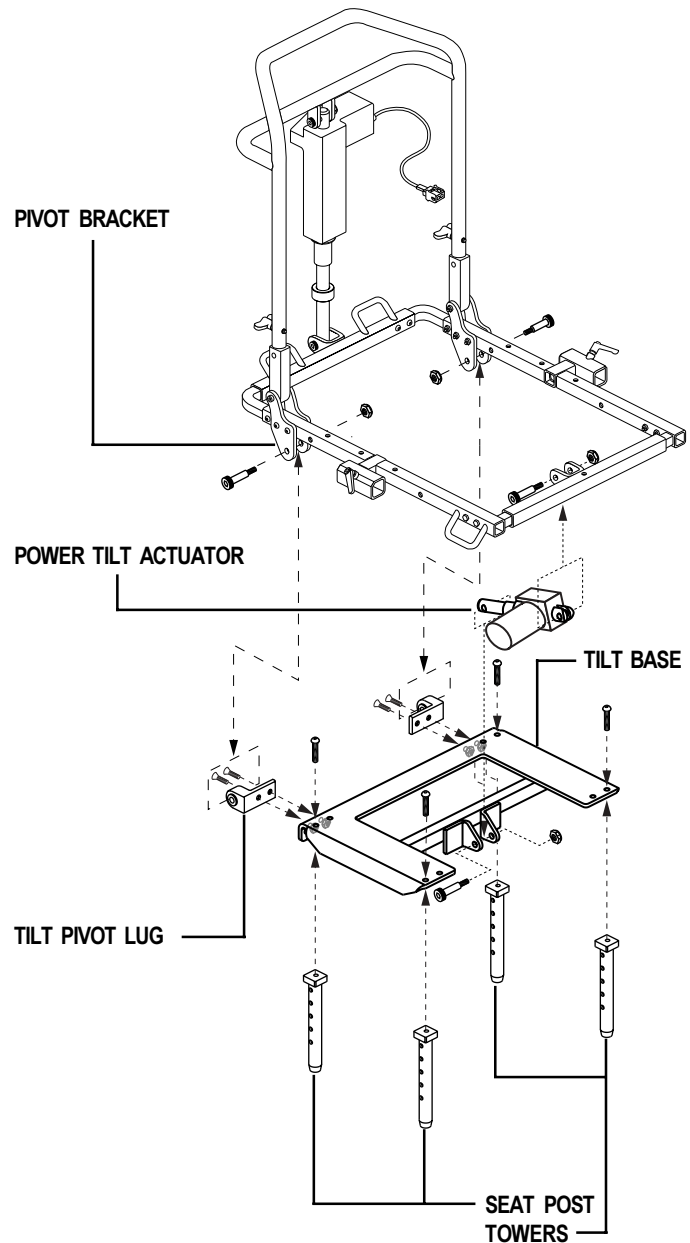

Figure 5. Power Tilt Installation
5. Mount the two tilt pivot lugs to the tilt base using the four (4) socket flat head screws and the four (4) Nylock jam nuts. Tighten the hardware using the hex key and the open-end wrench. See figure 5.
6. Mount the seat post towers to the outside holes of the tilt base using the original hardware (four button head screws). The L-brackets should not be secured to the towers. See figure 5.
7. Place the seat frame over the tilt base. The pivot brackets located at the rear of the seat frame slide over the thick, rounded ends of the tilt pivot lugs. See figure 5.
8. Secure the seat frame to the tilt base using two (2) of the 5/16-in. x 1 1/2-in. shoulder bolts and Nylock nuts; one for each side of the seat. Insert the shoulder bolts through the pivot brackets and tilt pivot lugs and secure with the Nylock nuts. See figure 5.
9. Mount the power tilt actuator with the cylindrical motor facing forward and to the right. Secure both ends of the actuator with the remaining 5/16-in. x 1 1/2-in. shoulder bolts and Nylock nuts. The long neck of the actuator mounts to the clips located on the tilt base actuator tube. The base of the actuator mounts to the mounting clevis located on the front rail weldment. See figure 5.